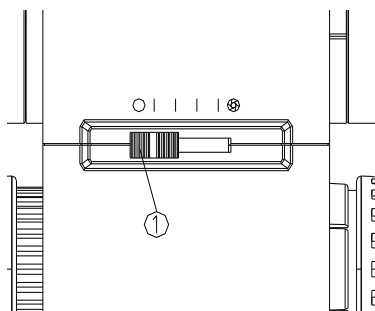

Fig. 21
Adjust the aperture diaphragm by the aperture diaphragm adjusting pole①. Pull it to the left to enlarge the aperture diaphragm, while pull it to the right to decrease the aperture diaphragm. (See Fig. 21)